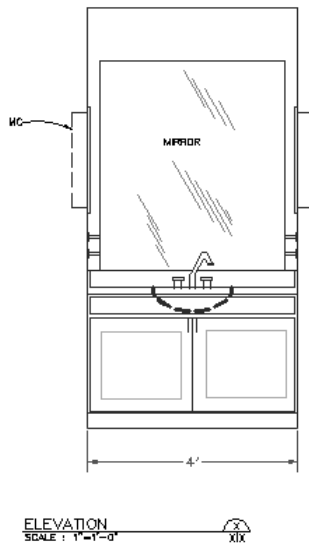

**Figure 11-21:** The finished cabinet.
5. Pick the lines at ① and ② in Figure 11-21. Click the Linetype Control drop-down list and choose the Hidden linetype. Press Esc so that the hidden lines are no longer selected.
8. Start the RECTANG command. Draw a rectangle inside the left cabinet. Use the COPY command to copy the rectangle to the right cabinet. (To copy, use an intersection object snap at point ③ as the base point and ④ as the second point of displacement.) The rectangles are drawn in cyan.
9. Save your drawing. It should look like Figure 11-21.